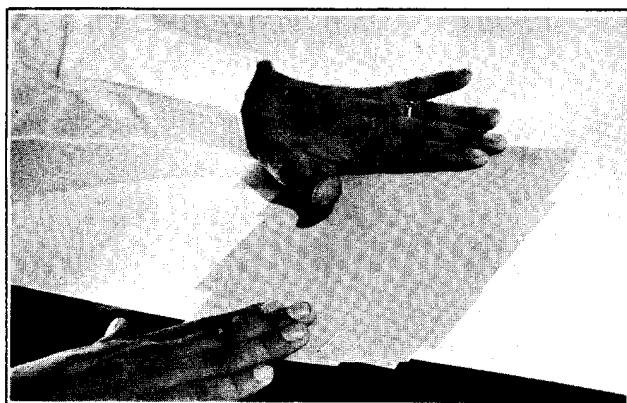

Figure 2-56. Taping on Backing
4. Cover a piece of cardboard or aluminum with cellophane and tape it to the outside surface with the cellophane facing toward the hole. Aluminum is used as backing where contour is present. The aluminum should be shaped the same as the contour. See Figure 2-56.